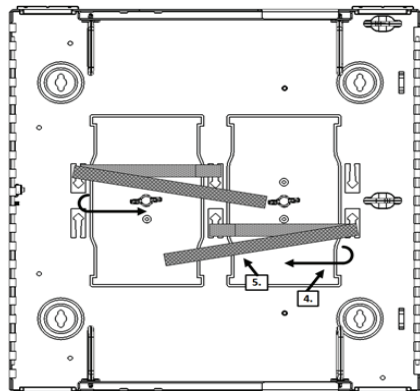

Figure 8
4. Fold the end over the splice trays (Figure 8).